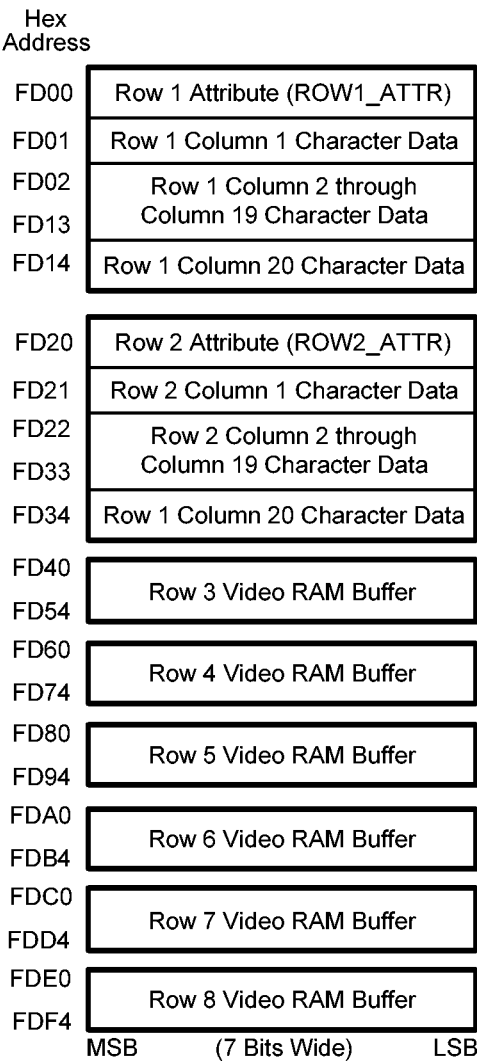

Figure 11. Video RAM Configuration
**On-Screen Display (OSD).** The OSD features a capability of displaying 8 rows x 20 columns of 96 kinds of characters for high-resolution (11 x 15 dots) patterns (Figure 10 and Figure 11).
grammable character color, row background color, and control for background off/on. The next 20 bytes contain row character data. Each character byte contains the ASCII code in order to select one of the 96 displayable characters. LDE or LDEI instructions are required to access the Video RAM (Figure 11).